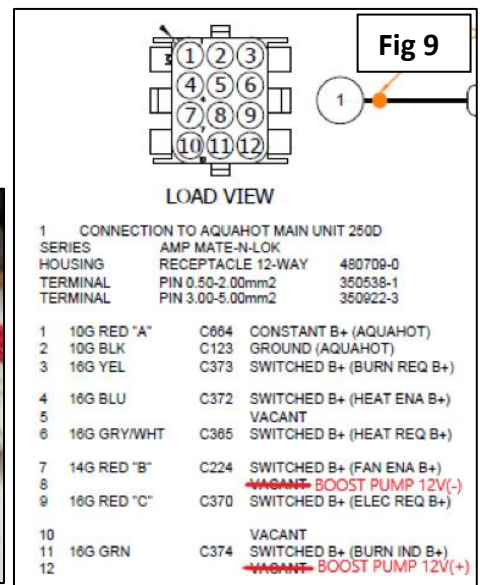

Fig 9
11. Connect the jumper harness end with pins to connector at the Aqua-Hot (Figure 9):